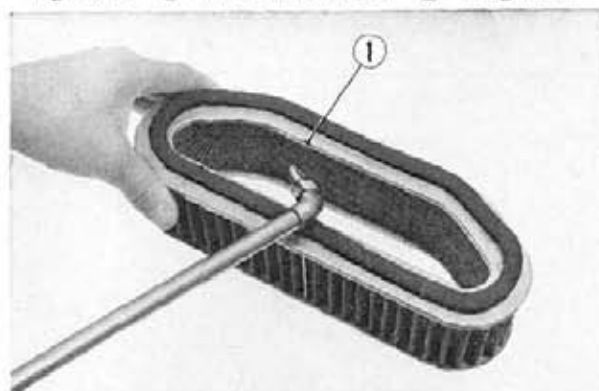

Fig. 15-14 ① Air cleaner element
1. Dust on the air cleaner element can be removed by tapping lightly and blowing off the loose dust particles with compressed air. (Fig. 15-14)